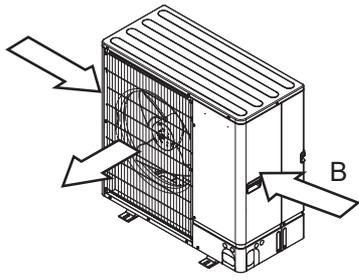

Fig. 1-5
- (3) Position the unit so that the air outlet blows perpendicularly to the direction of the wind. (Fig. 1-5)